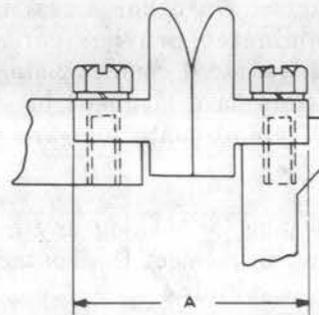

Fig. 3—Arcing Contacts
- (b) On contactors larger than 20 amperes, the distance (A in Fig. 3) between the back edges of the arcing contacts with the contactor closed shall be at least the minimum shown in the following table.